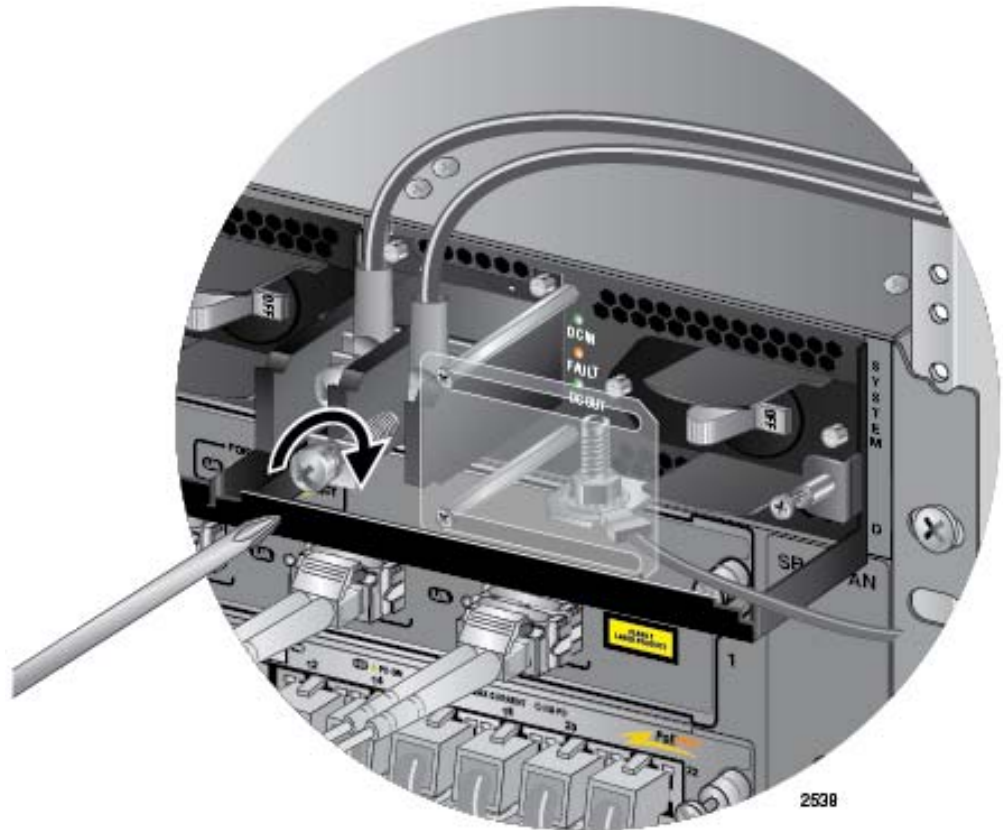

Figure 131. Connecting the Negative (-) Power Wire with a Straight Terminal
7. With a #3 Phillips-head screwdriver, connect the negative (-) power lead wire to the negative terminal on the power supply, with the remaining terminal screw removed in the previous step 5. The negative terminal is on the right. You may attach the terminals with the wires either above or below the terminal block. Refer to Figure 131 on page 193.